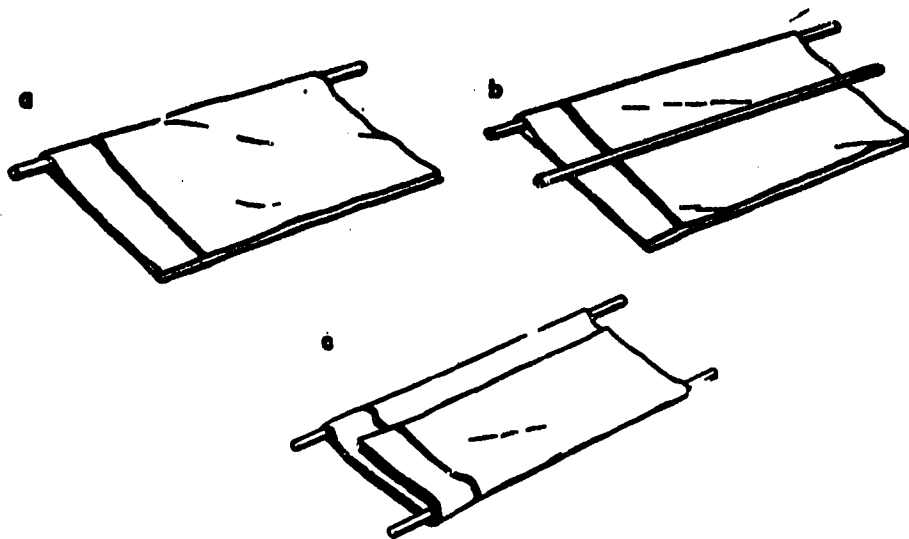

Fig 2-15. Pole and blanket litter.
- o **Pole and blanket litter (fig 2-15)** - Use a blanket, shelter half, tarpaulin, or other material for the bed of a pole and blanket litter. You can make the poles from such objects as strong branches, tent poles, rifles, or skis.